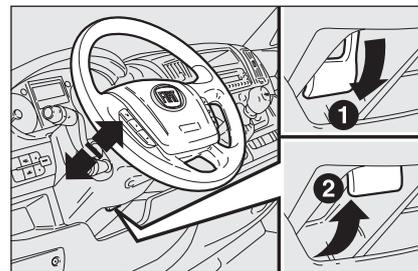

fig. 37
- release the lever **A**-fig. 37 pulling it towards the steering wheel (position 2).